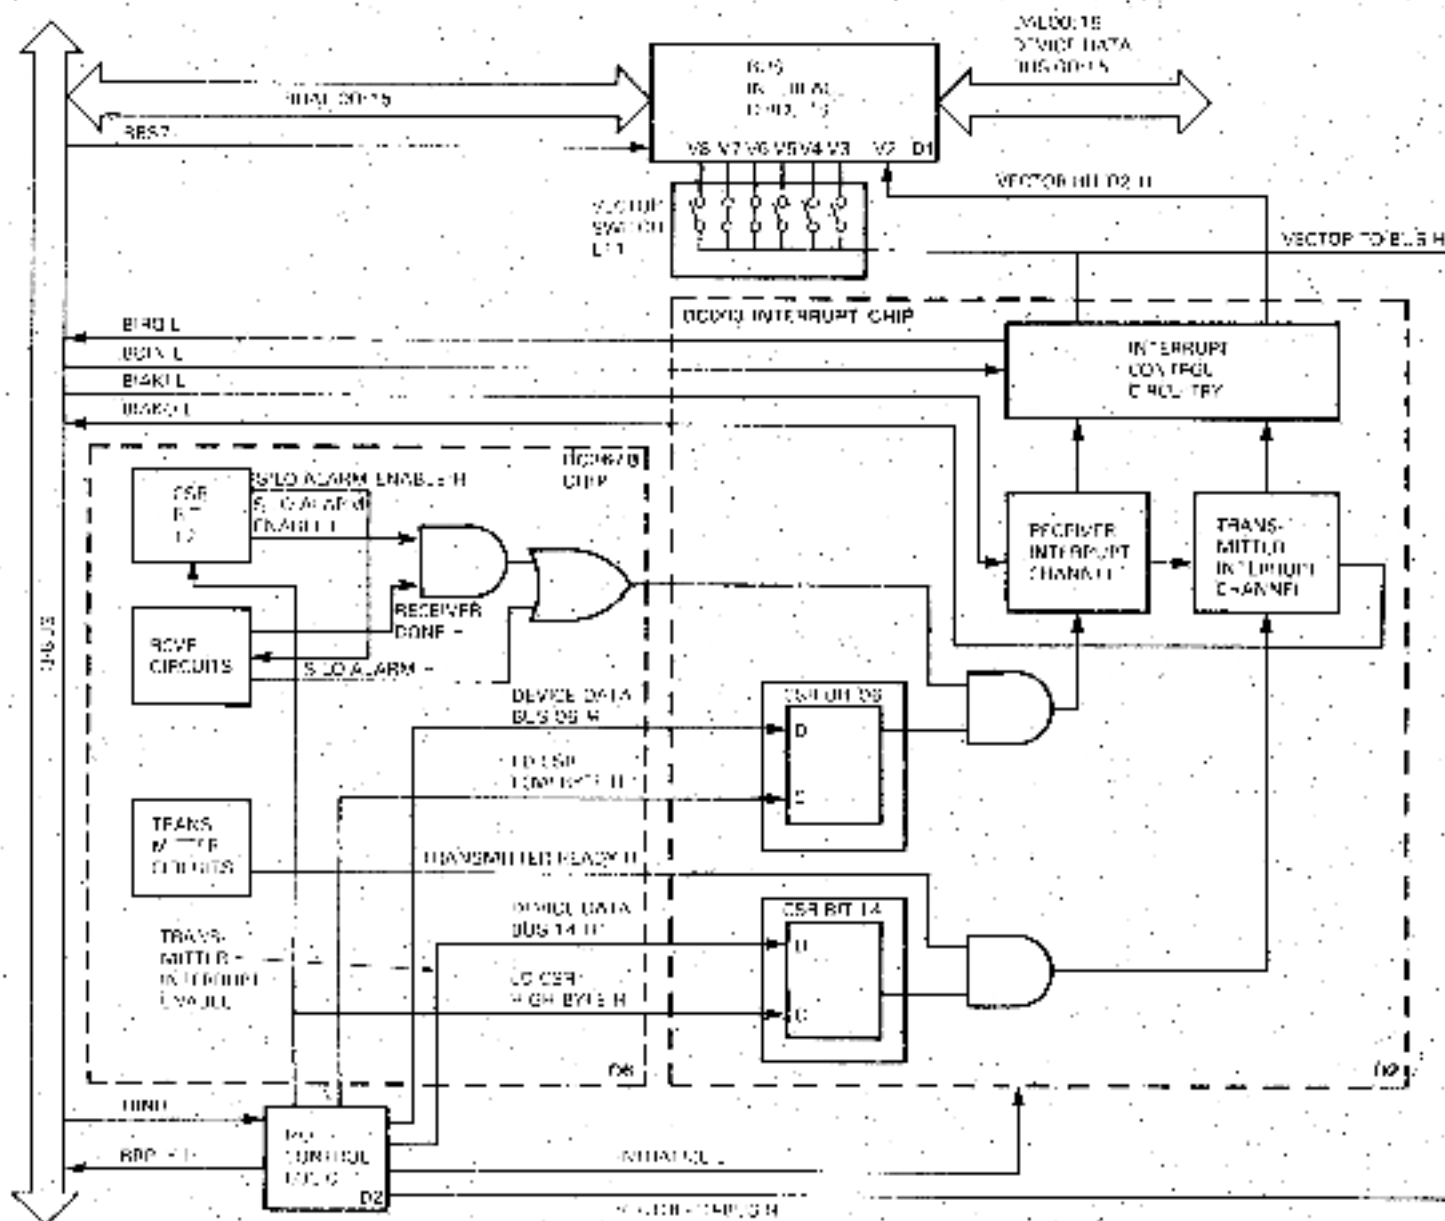

Figure 5-7 Interrupt Logic
5.3.2.7 Interrupt Logic – Most of the logic for interrupts is contained in the DC003 interrupt chip (Figure 5-7). The DC003 chip contains two interrupt channels, one for receiver interrupts and one for transmitter interrupts. The circuit generates a receiver interrupt either when the RBUF has 1 character ready for the computer (Receiver Done interrupt), or when the silo buffer has 16 characters ready (Silo Alarm interrupt).